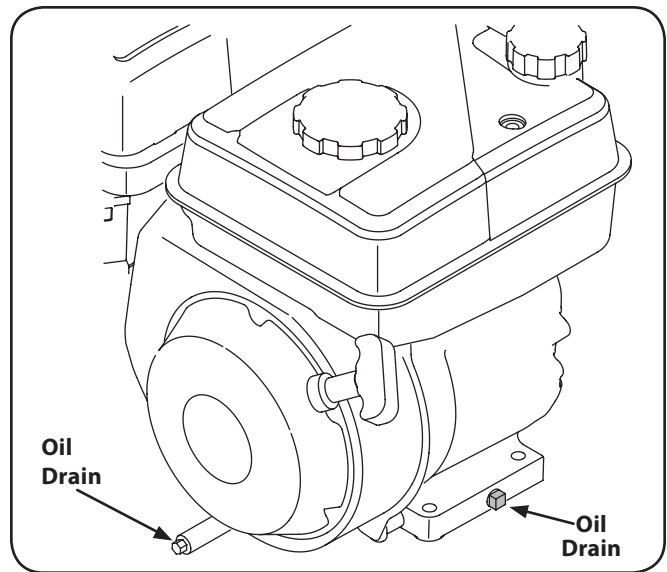

Figure 6-3
6. Remove the Oil drain plug. See Figure 6-3.
NOTE: Depending on which engine model you have, the oil plug may be positioned differently. These positions include on the front and/or rear side of the block, or as an extended tube. Examples are shown in Figure 6-3.
12. Fill with the recommended Oil. See Figure 6-3.